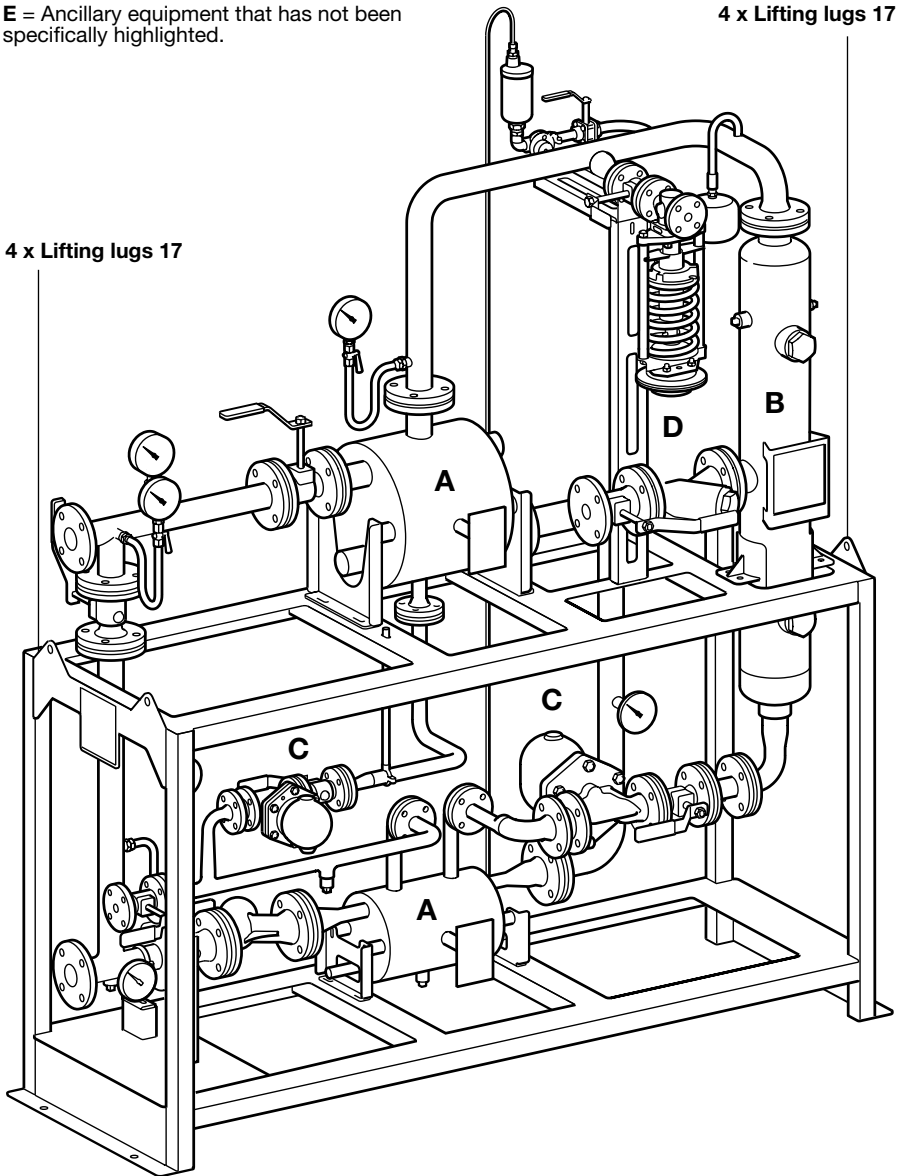

Fig. 1 Spirax Freme Flash Recovery Energy Management Equipment
1.13 Lifting (fig.1)
The Spirax FREME unit should be lifted by suitable lifting gear, from the base, or lifting lugs provided (see item 17, Figure 1), placed in position and securely bolted to the floor. Please Note:
The Spirax FREME unit consists of the following core items (Figure 1):